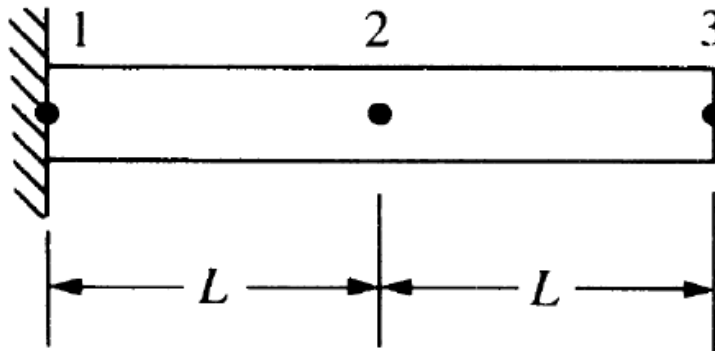

Fig. 5
- 10 Determine the Eigen values and Eigen vectors of the bar shown in fig. 5. Take [14M]